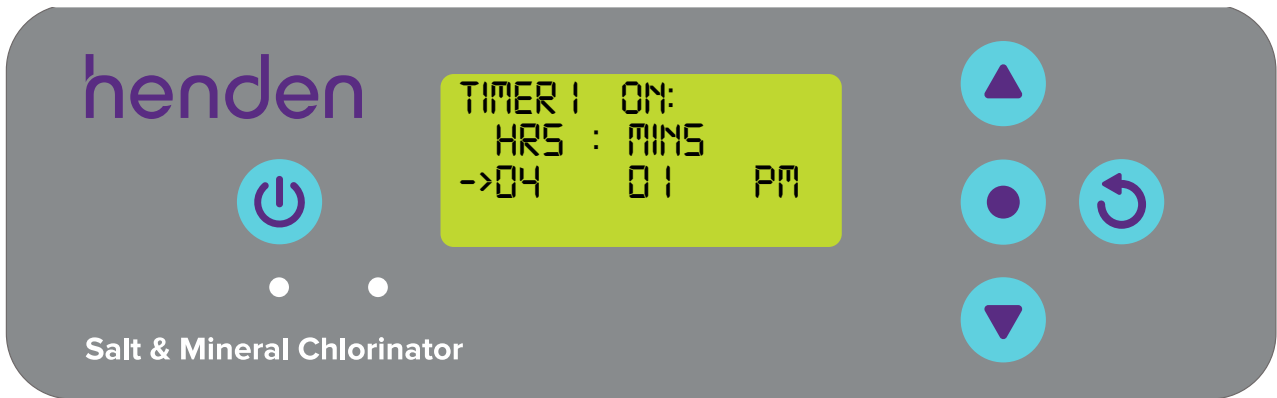

Figure 9.18
- Next, you will be asked to select the TIMER 1 ON time (refer Figure 9.18). Adjust this time setting as you adjusted clock settings for first time setup (refer Section 6.3).